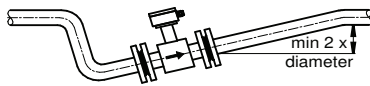

Figure 2.8
2. Where continuous flow is too low to ensure permanent flooding of the full cross section of the sensor, a low-water trap can be used to create permanent flood in the FM100 (see Figure 2.8).